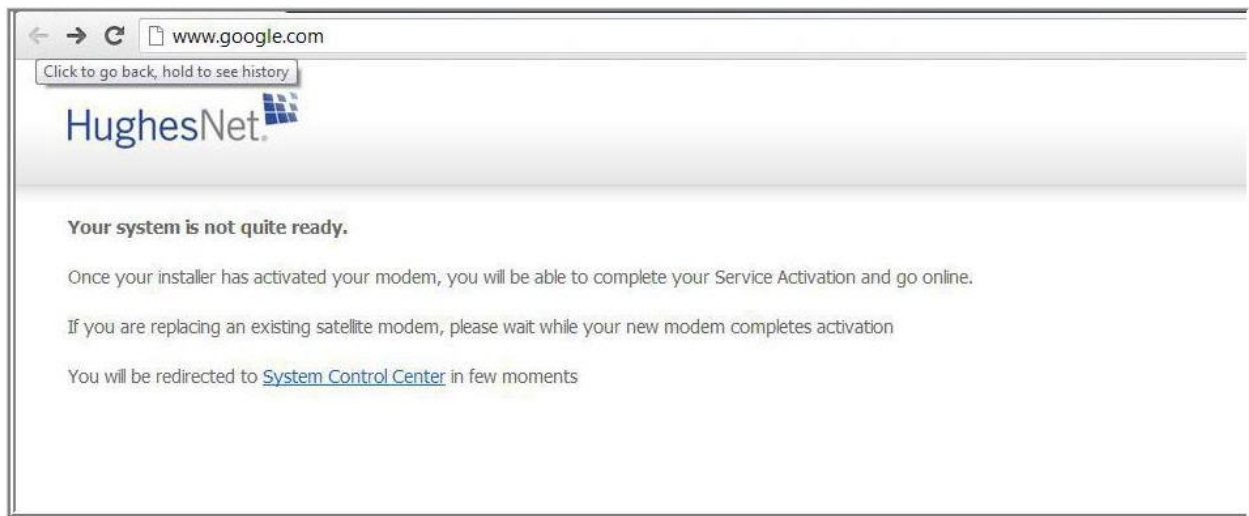

Figure 10: System not ready screen
1. Open a browser on your laptop. The *Your system is not quite ready* screen appears as shown in Figure 10. This is the first screen of the commissioning process.